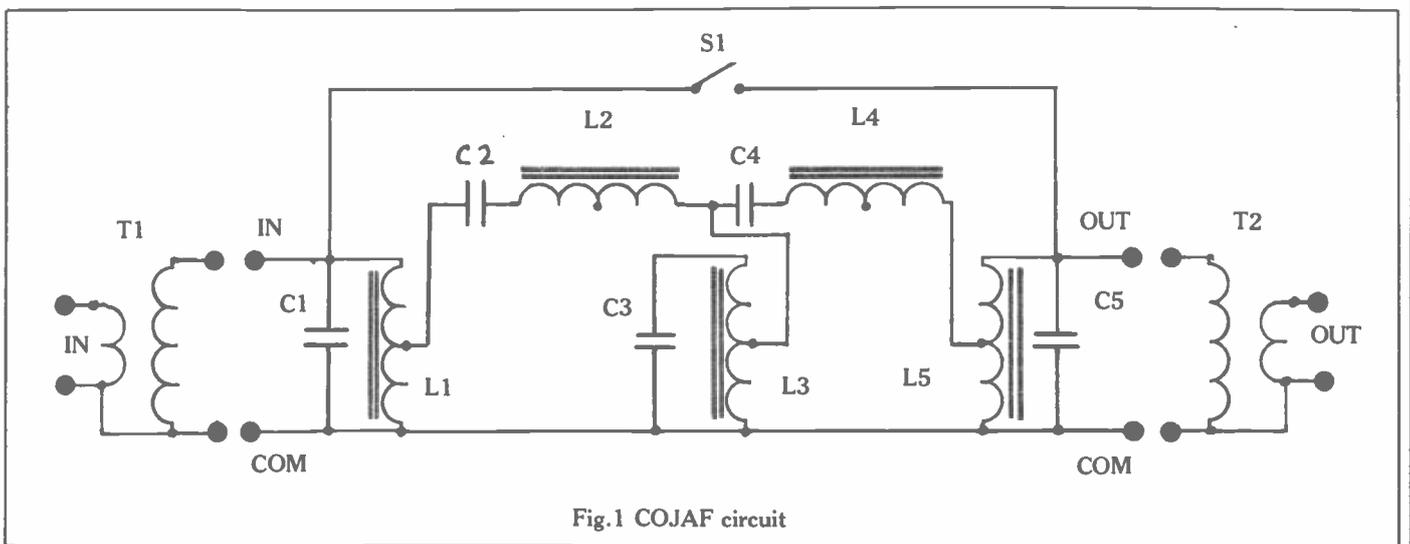

Fig.1 COJAF circuit
The original W3NQN information is a gold mine of design and circuit calculations but we will simply consider the circuit and go directly on to how to put it together and get hold of the components. Fig 1. shows the circuit diagram of the filter. Ignore T1 and T2 and look at the circuit from the input (IN) to the output (OUT). The circuit is a Butterworth Filter with five tuned stages made up from C1/L1, C2/L2, C3/L3, C4/L4 and C5/L5. The combinations of L and C are arranged to tune the required audio frequency for the reception of the CW note.
Because the filter has an input/output impedance of some 600 ohms and most audio outputs are light ohms, the filter has to be matched into the audio line. This is very simple. Two transformers T1 and T2 are used for matching. There is a large range of transistor output transformers which are around 1200 ohms, centre tapped into eight ohms. Half of the high impedance tapped winding gives about the correct match for the filter, so two of them may be used "back to back" as shown in Fig 1.